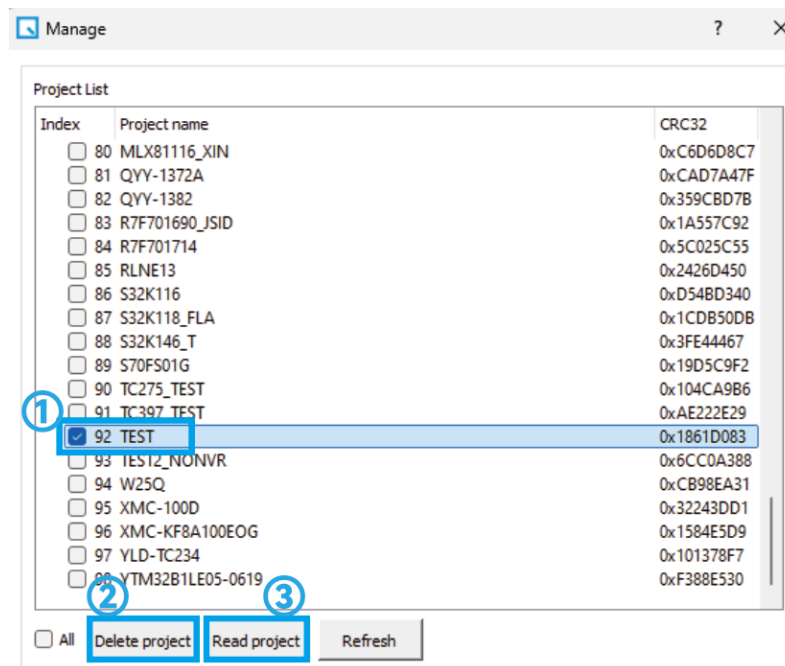

Figure 4.18 Project Management Interface
- 2) Pop up the project list window (as shown in Figure 4.18).
The list gives the names of projects in the current programmer, and it is needed to check the project first (as shown in Figure 4.18-①). Then, click "Delete Project" to delete the checked project (as shown in Figure 4.18-②).
It is also allowed to click "Read Project" to read the checked project (as shown in Figure 4.18-③).